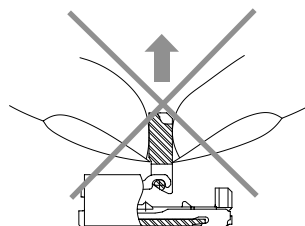

Fig. 3
- ③ The actuator will rotate 125°C. Do not apply force to rotate further.
- ④ When opening or closing the actuator, do so at the center section.
- ⑤ Do not grasp or lift the actuator (Fig. 3) nor insert the nail from the back of it (Fig. 4).